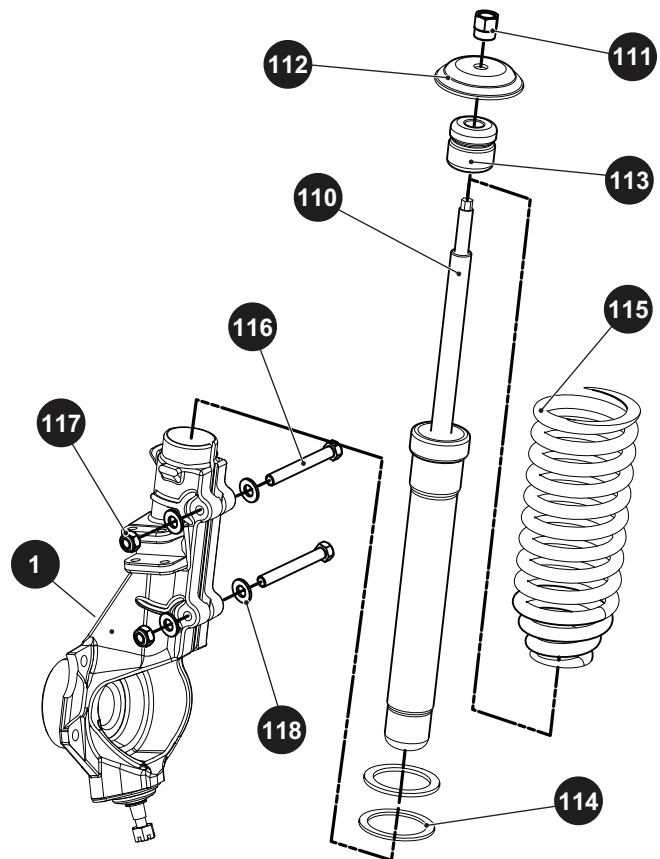

Fig. 5 Strut Replacement
4. Compress the coil spring (115) just enough to relieve the tension between the coil spring cap (112) and the coil spring base (114).
5. Remove the spring retaining nut (111) and coil spring cap (112).
6. Slowly release the tension from the coil spring compressor and remove the spring (115).
7. Remove the bump stop (113) from the strut (110) to reuse during reassembly. If the bump stop is cracked or otherwise damaged, replace it with a new one.
8. Remove the two nuts (117), washers (118), and bolts (116) securing the strut to the strut assembly (1).
9. Remove the strut (110) from the strut assembly (1), retaining the coils spring base washers (114) for reuse (Ref. Fig. 5).